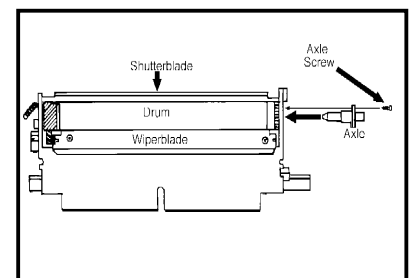

Figure 4
7. Locate and remove the screw holding the drum axle in place. Remove the drum axle being careful not to drop or dislodge the drum (Fig 4). Tape the drum shutter door open and gently lift the drum by its small gear, twist clockwise and remove.